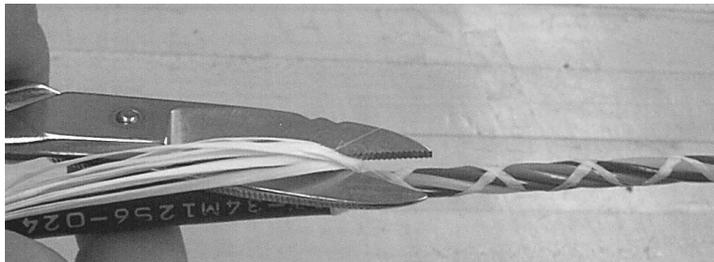

Figure 27 – Cut the dielectric strength elements to the required length.
5.14 Consult the splice closure instructions to determine if the dielectric strength members are required for strain relief. Separate the dielectric strength members from the buffer tubes and cut them to the required length (Figure 27).